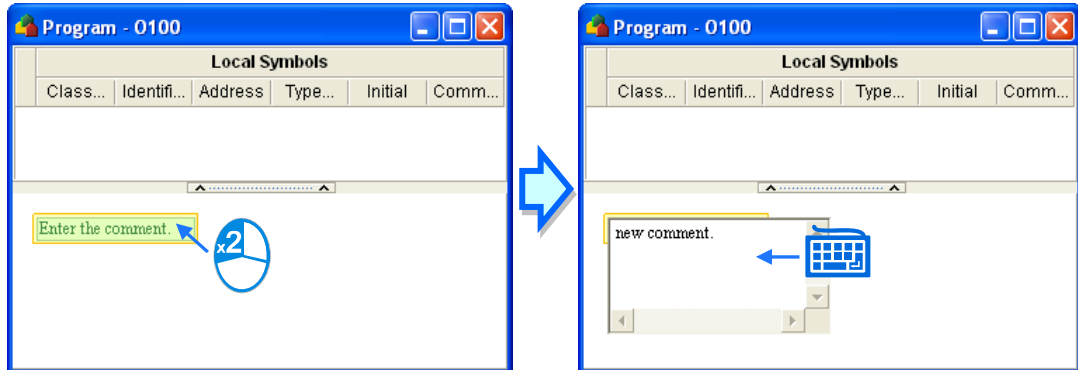

Figure 12-42 Typing a comment
- (3) After the users double-click the object inserted, a box will appear. The users can type a comment in the box, as shown in figure 12-42. If the users want to start a new line of text at a specific point, they can press Shift+Enter on the keyboard.